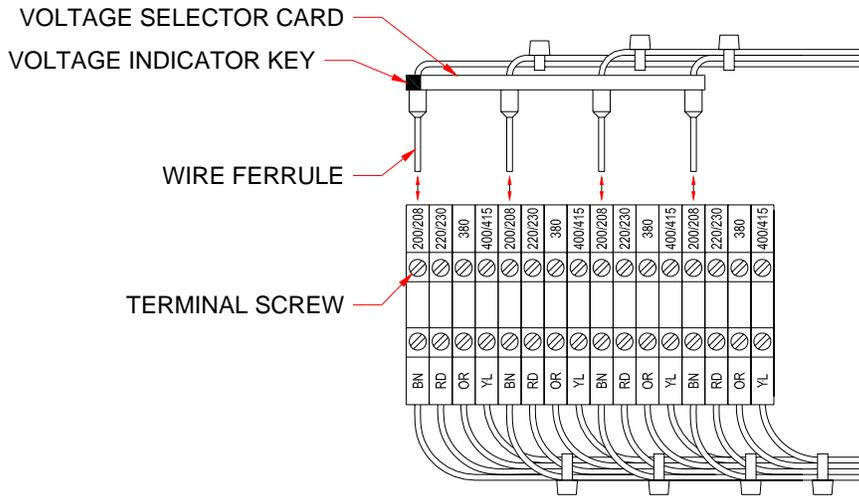
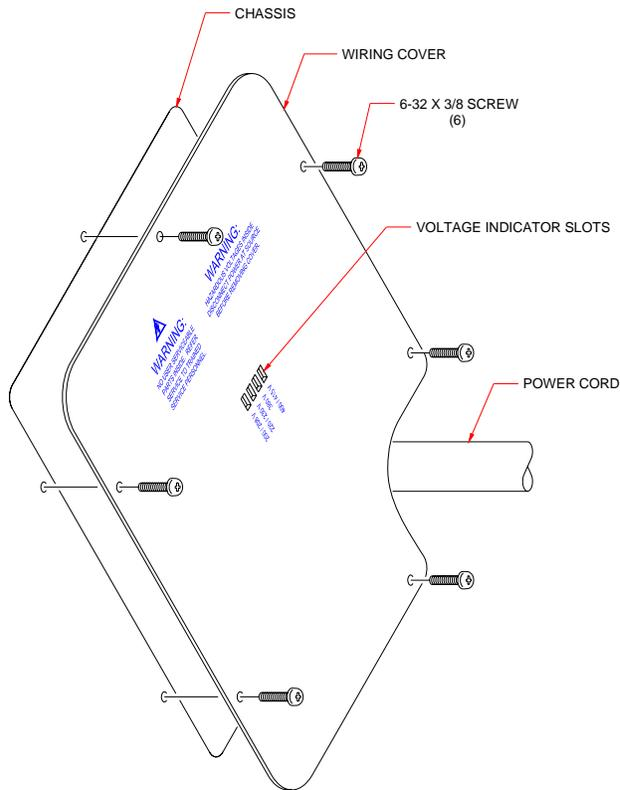

Figure 3-2. Voltage Change Detail
Figure 3-7. Wiring Cover Installation
Changing line voltage is accomplished by moving four wires to the required voltage terminals. The required location is shown in Figure 3-2. To change the voltage setting, loosen the four terminal screws in the voltage-change terminal block to which the wires are connected and move the wires to the required voltage position. The wires are held in place in a locator card to maintain their spacing and prevent mis-wiring. The screws in the new terminal location must be loosened four full turns to allow the entry of the wires. Move all four wires at once by lifting the locator card to extract the wires from the terminals. Move the card and wires to the correct location and insert the wires completely so that the card rests against the terminals. While holding the locator card in place to keep the wires fully inserted, tighten the terminal screws. The recommended torque requirement is 0.5 Nm. Also, tighten the four terminals where the wires were previously.
When the power wiring, voltage setting and current setting are complete, install the wiring cover with the six (6) 6-32 \times 3/8 screws provided. The wiring cover installation is shown in Figure 3.7. Be sure that the voltage indicator tab of the voltage locator card (Figure 3.2) shows through the correct indicator slot in the wiring cover.